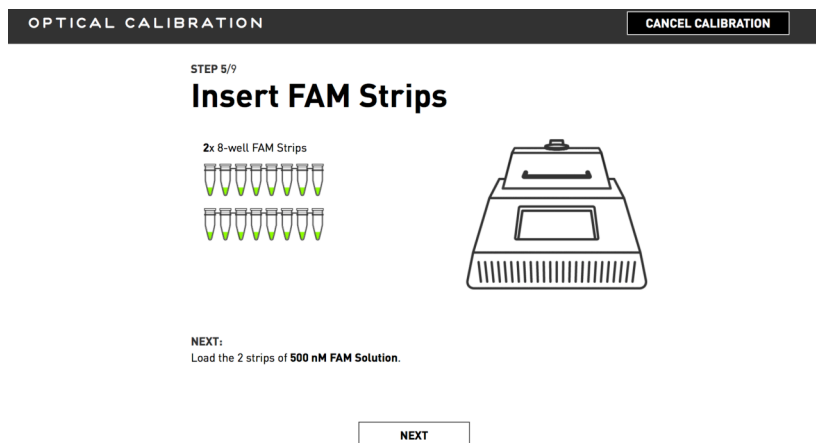

Figure 3.17
8. Once the reading completes, insert the FAM strips (Figure 3.17).